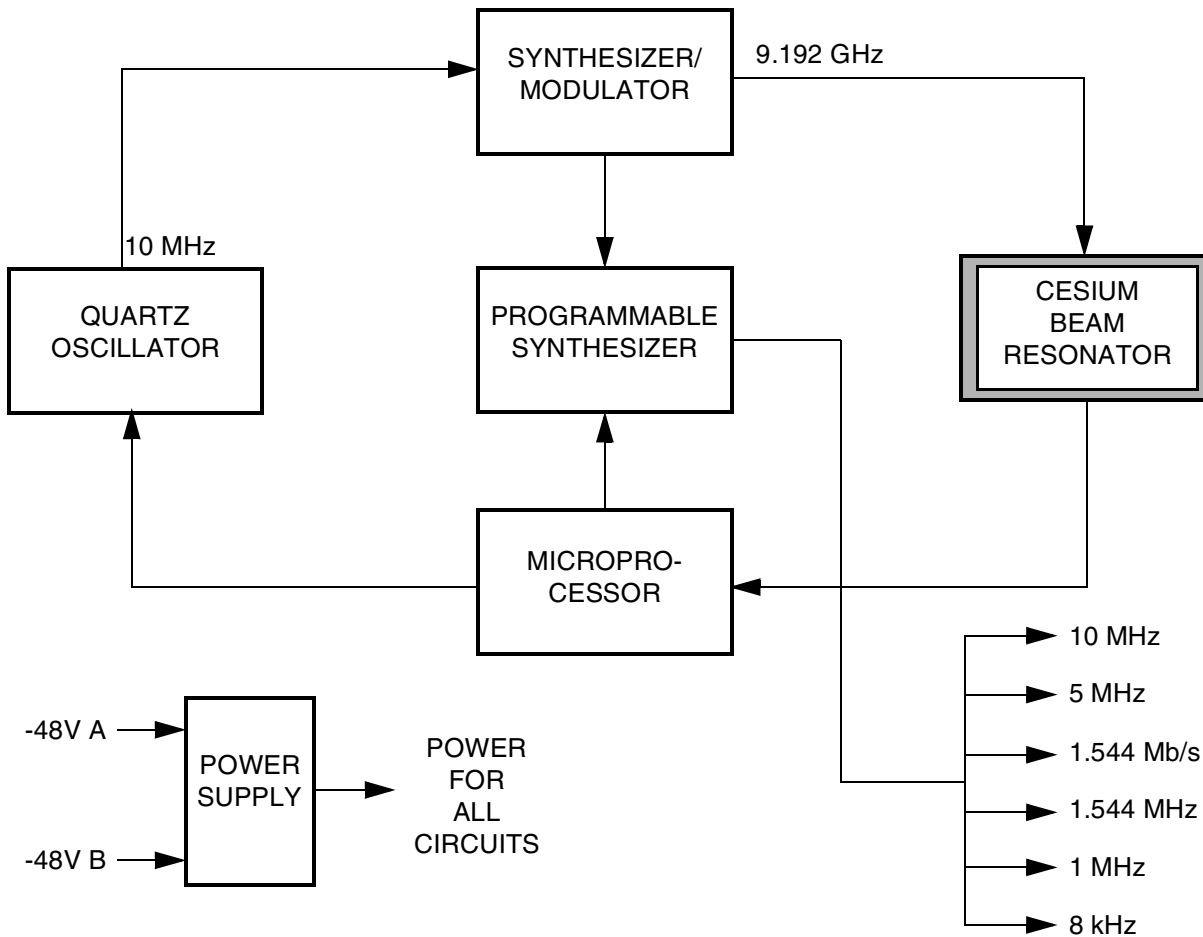

Figure 1. Block Diagram
2.01 The DCD-Cs is a self-contained, atomic primary-frequency reference. The atomic clock in the DCD-Cs is based on a natural resonant frequency of the cesium 133 atom. Since all outputs are referenced to an atomic primary frequency standard, precise frequency signals are obtained without reference to another standard. See Figure 1.